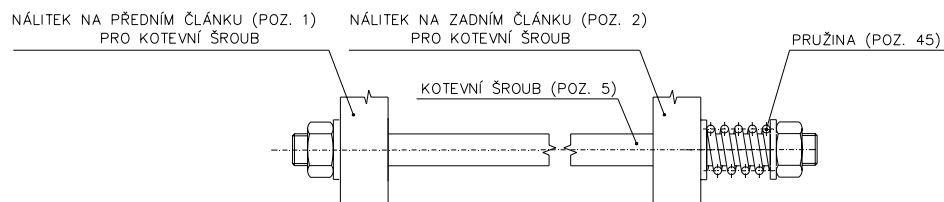

Figure 4 – Anchor Bolt
- Locate the anchor bolts on the boiler vessel such that the longer thread shows towards the front and, the front end does not protrude beyond the casting more than 20 mm Affixing of the individual parts that belong to the anchor bolting, during the binding of the boiler body, is observable from Fig. 4 (detail X and Y) Binding pressure should be such as to compress the gussets to about 32 mm length.